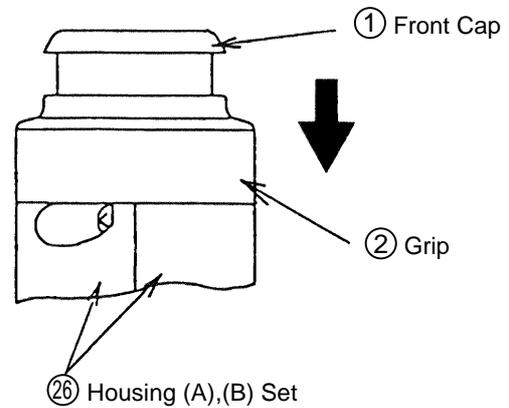

Fig. 1
(1) Disassembly of the Chuck Section:
As shown in Fig. 1, slide the Grip ② in the direction indicated by the arrow mark, and remove the Front Cap ①. The Grip ②, Ball Holder ③ inside the Grip, Holder Spring ④, and two Steel Balls ⑨ can then be removed from the Cylinder ⑪.